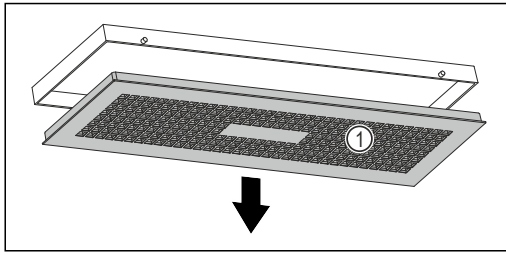

Fig. 125
- ▶ Slowly turn the water box down while holding the cover Fig. 125 (1).
- ▶ Remove the cover Fig. 125 (1).